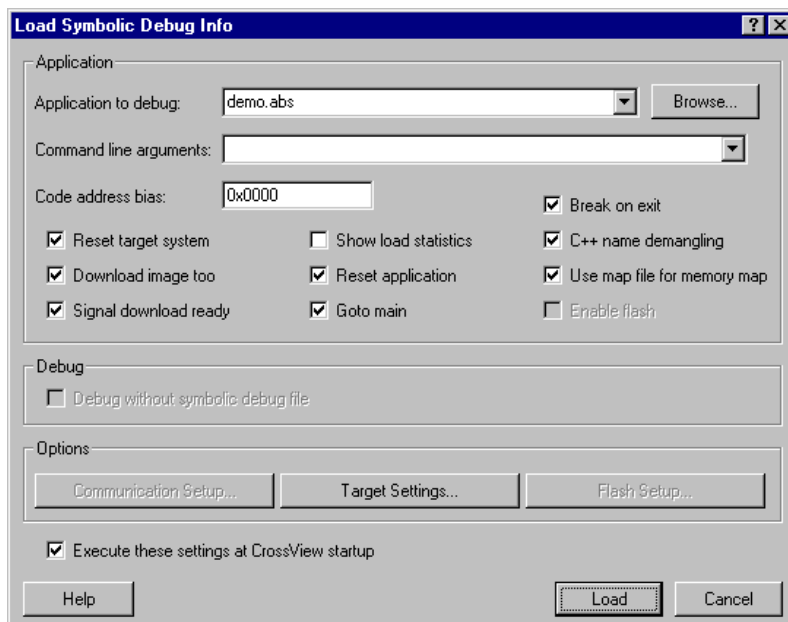

Figure 1-7: Loading Symbolic Debug Information
- From the **File** menu, select **Load Symbolic Debug Info...** The Load Symbolic Debug Info dialog box appears, as shown in figure 1-7.